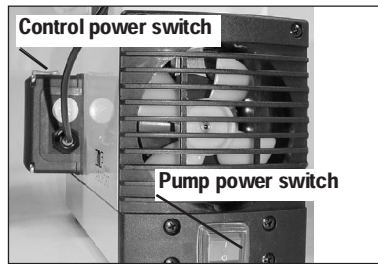
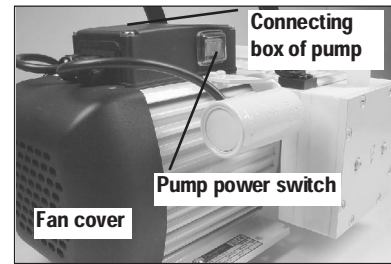
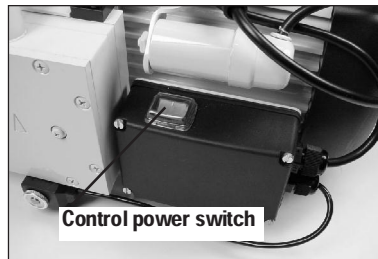

Fig. 2:
Fig. 3:
Fig. 4:
- 2 Switch the pump on at the pump power switch (see fig. 2; for pump N 860.3 FT.40.18, see fig. 3).
- 3 If cyclic drying of the pump heads is required in the current evacuation process, switch the drying system on at the power switch of the control box (see fig. 2; for pump N 860.3 FT.40.18, see fig. 4).